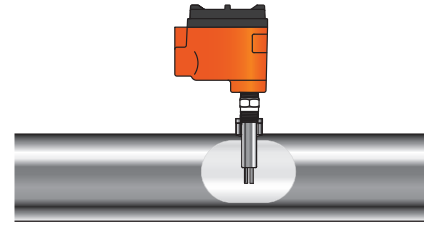

Figure 2 - Kayden CLASSIC 810 with 4”U length installed in a 6” pipe with a 1” weldolet.
Figure 2 illustrates a Kayden flow, level, interface and interface switch with a 4” ‘U’ installed in a 6” pipe in a typical top-mount pipe installation. It is extremely important to remember two (2) factors when determining the correct ‘U’ length: